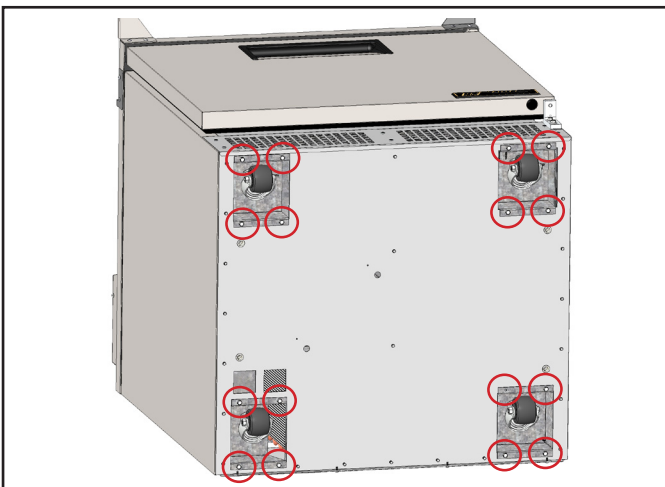

Fig. 9. Locate castor box. Back out the four screws anchoring the box.
2. Remove the castor box. See fig. 9.